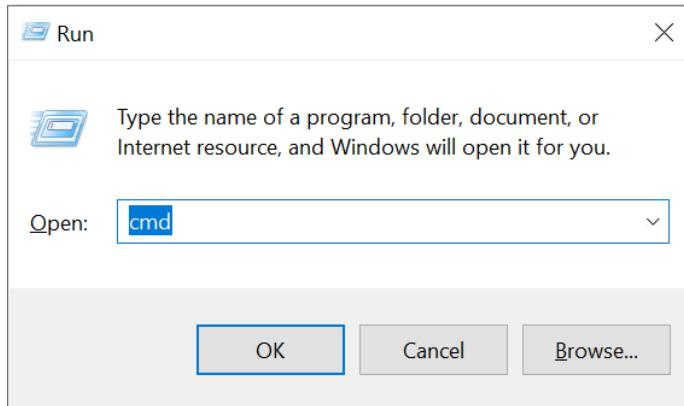
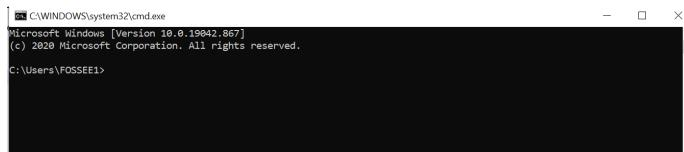

Figure 3.8: Launching the Command Prompt on Windows
Figure 3.9: Command Prompt on Windows
1. Launch the Command Prompt. Press the Windows key+R together. A window, as shown in Fig. 3.8 appears. In the text box adjacent to Open, type cmd, and press Enter. The Command Prompt, as shown in Fig. 3.9 appears. By default, it points to the home directory.
1. Launch the Command Prompt, as shown in Fig. 3.8.